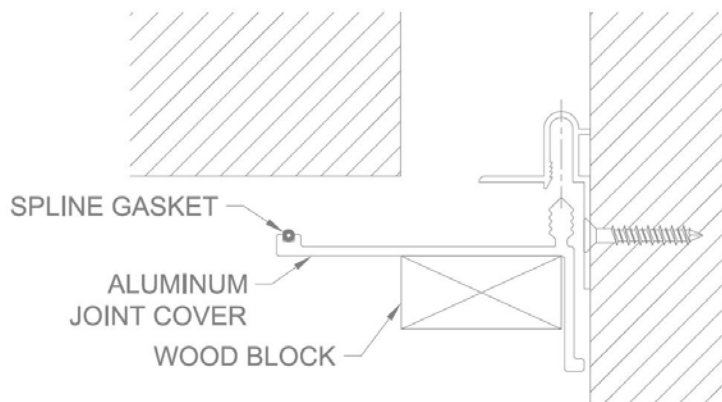

FIGURE 7
3. Before attaching the cover plate, install the gasket spline and cut it to length. Place the joint cover over the opening, aligning the male portion of the cover with the female portion of the clip. Set the joint cover in position by using a rubber mallet & wood blocking to help avoid damage. Avoid excessive force, which may also damage the joint cover. Repeat these steps the entire length of the joint cover. **See Figure 7.**